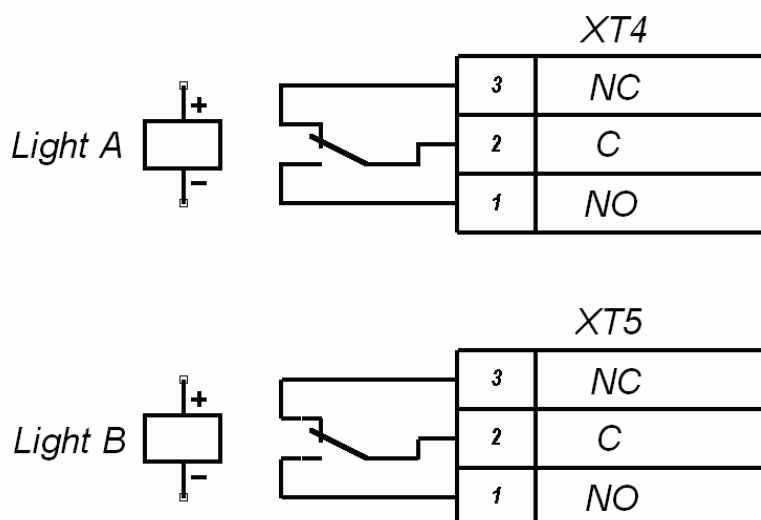

Fig. 7 Output cascades for Light A and Light B
5.9.5 The remote indicators^{**}) are connected to the connector blocks “XT4” (“*Light A*”) and “XT5” (“*Light B*”). At that the “*Light A*” (“*Light B*”) relay is active (the voltage is supplied to the relay coil), when the “Green arrow” pictogram on the LED indication display, corresponding to the set passage direction, lights, and it is passive, when the “Green arrow” pictogram on the Led display does not light. The response/release of the relays “*Light A*” and “*Light B*” can be defined according to lighting up/going down of the red indicators, which are installed near the above mentioned relays (Fig. 2). Output cascades for the “*Light A*” and the “*Light B*” relays are nonbridging relay contacts (Fig. 7) with the following signal characteristics: